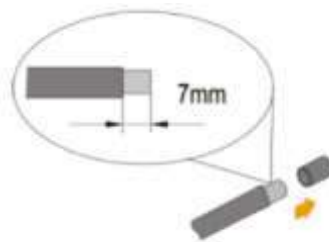

Fig. 4-37 Strip the insulation
- 1) Strip the insulation from each DC cable by 7 mm (Fig. 4-37).